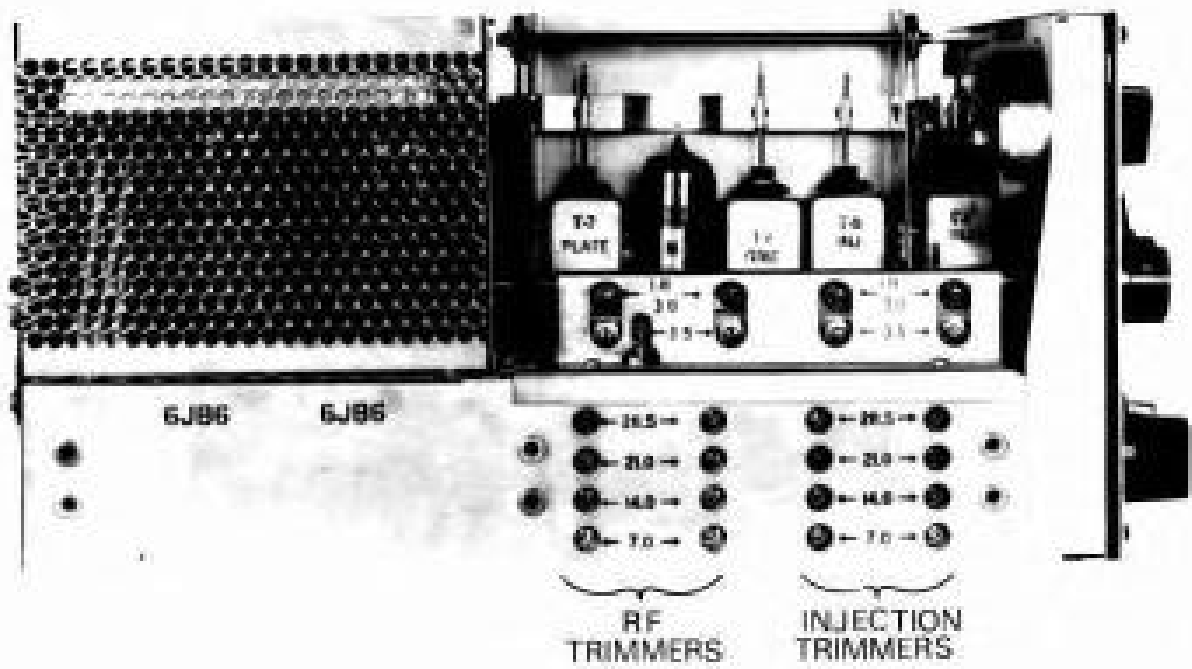

Figure 5-3. RF and Injection Trimmers
- Refer to figure 5-3. With the plate current at 200 mA or less, tune the two 3.5 MHz RF trimmers for maximum plate current. The RF trimmers are in the two columns nearest the rear of the chassis, along the left side. If the plate current exceeds 200 mA, reduce it by turning down the GAIN control.